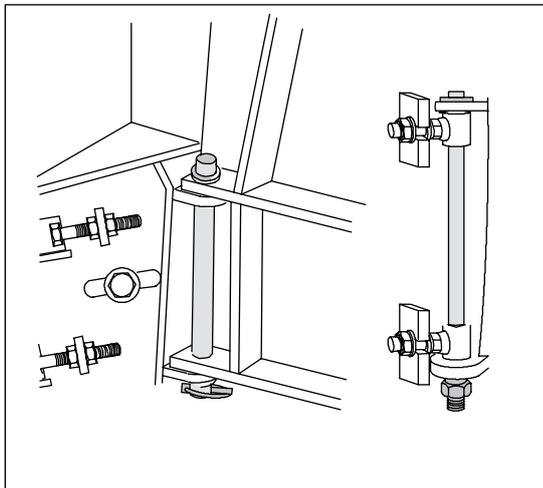

Fig. 3. Mounting the feeder on the chipper
2. Attach the feeder frame to the chipper pins and lock bolts. Fig. 3.